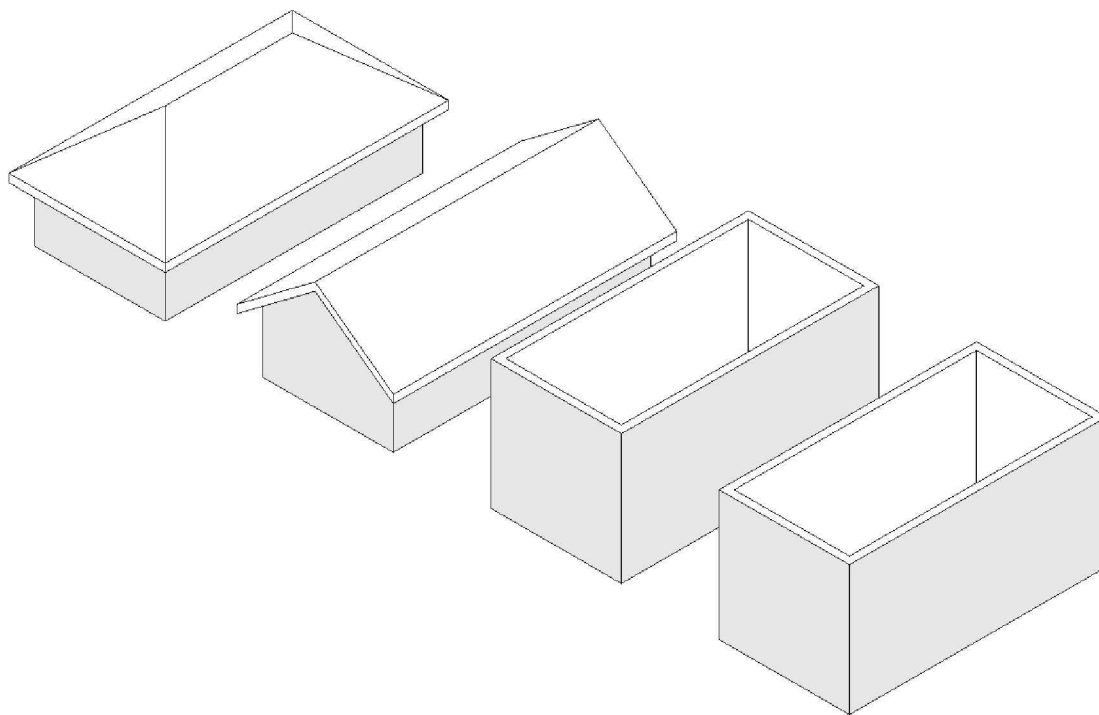

FIGURE 6-1.7 3D view – gable roof
25. Switch to the **3D** view (Figure 6-1.7).